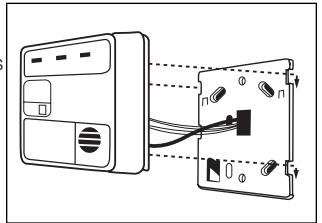

FIGURE 6
9. Align tabs on back of base with slots on side of mounting plate. Slide base down to lock into position. See Figure 6.